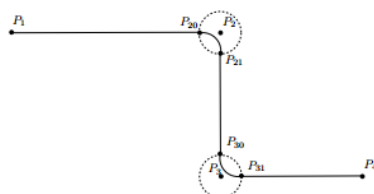

Figure 3-41 Blending tolerance
7. **Blend Tolerance:** Rounding radius, see Figure 3-41.